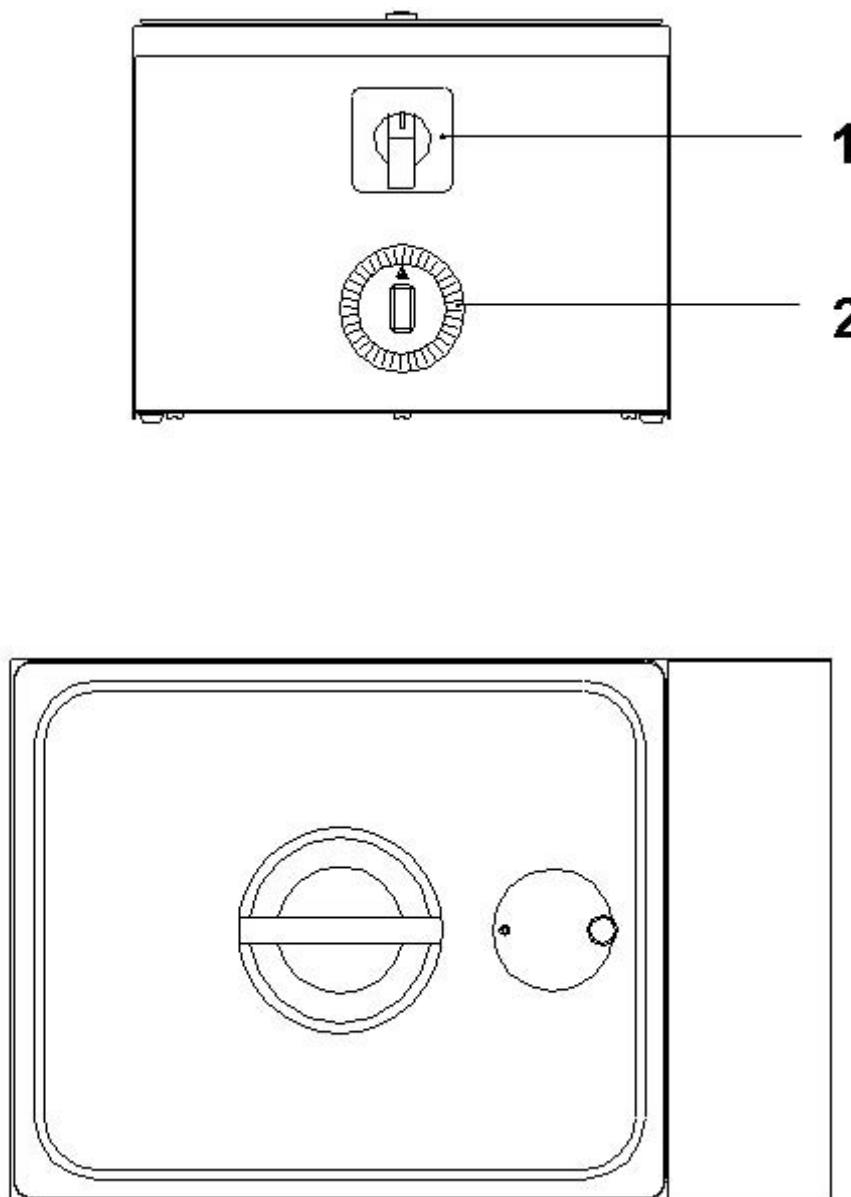

Fig 1
- 4.5.3 Switch on the main switch (1) to the [I] position (Fig. 1).
- 4.5.4 Set the timer (2) to 30 minutes (Fig. 1). (**Note:** it is recommended to test the setting on the timer depending on local conditions to make sure that the water temperature reaches boiling in the required 30 minutes prescribed in the Standard EN 196-3.)